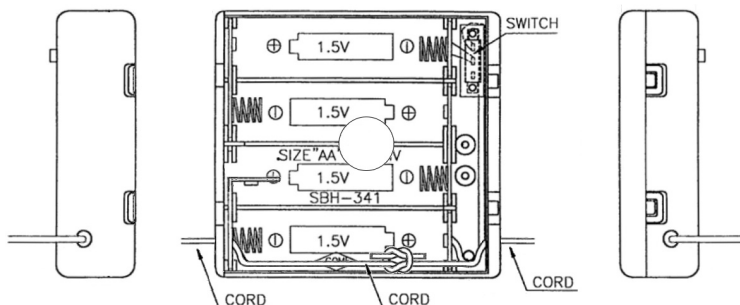

Fig 3C - Inserting neck cord
- 7 - Thread the neck cord through both holes and tie a knot inside the box [Fig 3C]